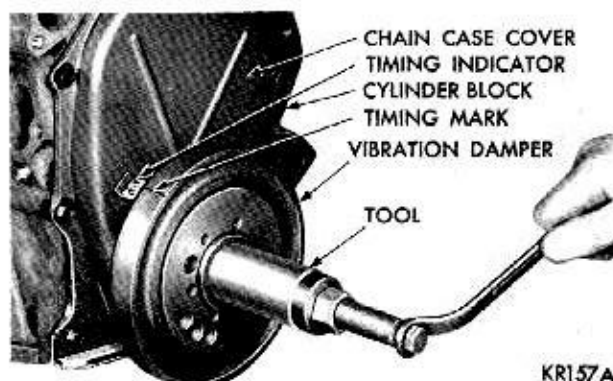

Fig. 28—Installing Vibration Damper Assembly
(1) Be sure mating surfaces of chain case cover and cylinder block are clean and free from burrs.
(2) Using a new gasket slide chain case cover over locating dowels. Install and tighten bolts 15 foot-pounds.
(3) Lubricate seal lip with lubriplate, place damper hub slot on key in crankshaft, and slide vibration damper on crankshaft.
(4) Place installing tool, part of Tool C-3688 in position and press damper on the crankshaft (Fig. 28).
(5) Install damper retainer washer and bolt. Tight-